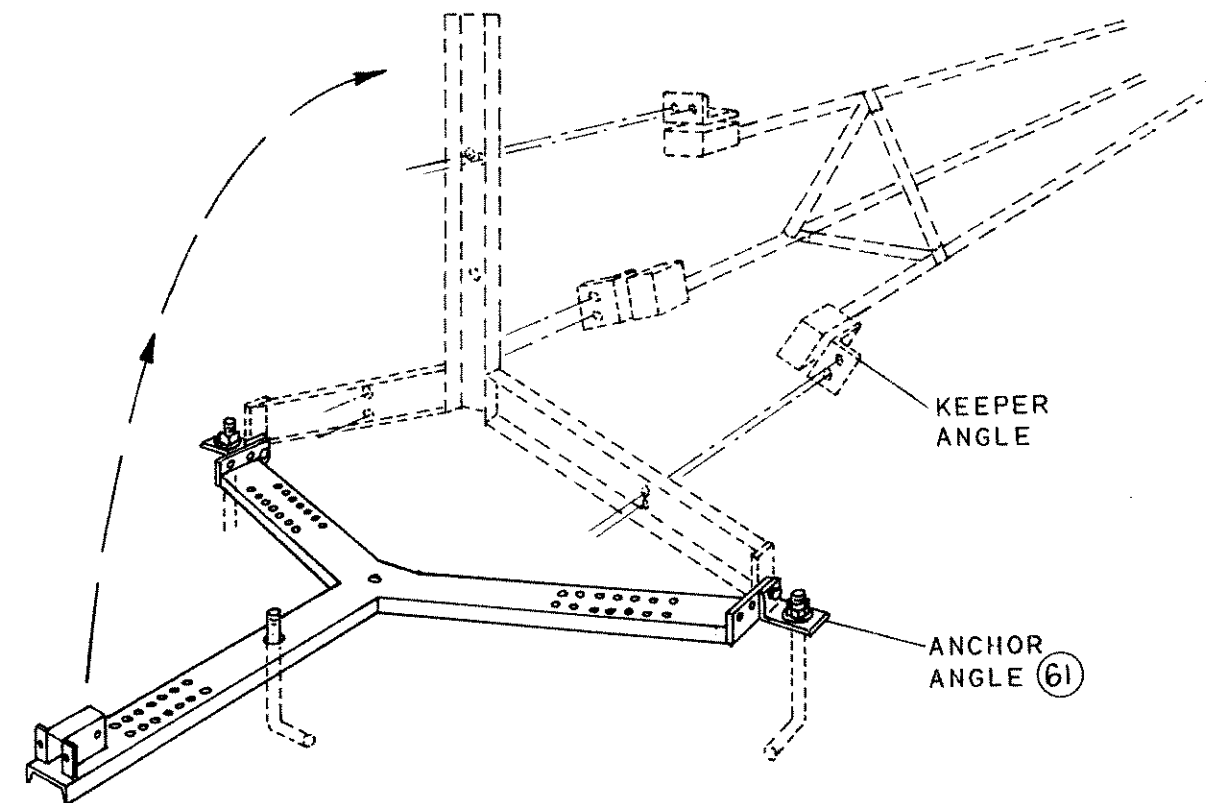

FIG. 13
15.) Place base onto concrete pad. Position anchor angles (Fig. 13) on to the pins of the base. Place anchor angles, while attached to base, over the anchor bolts. Secure with washer and nut.